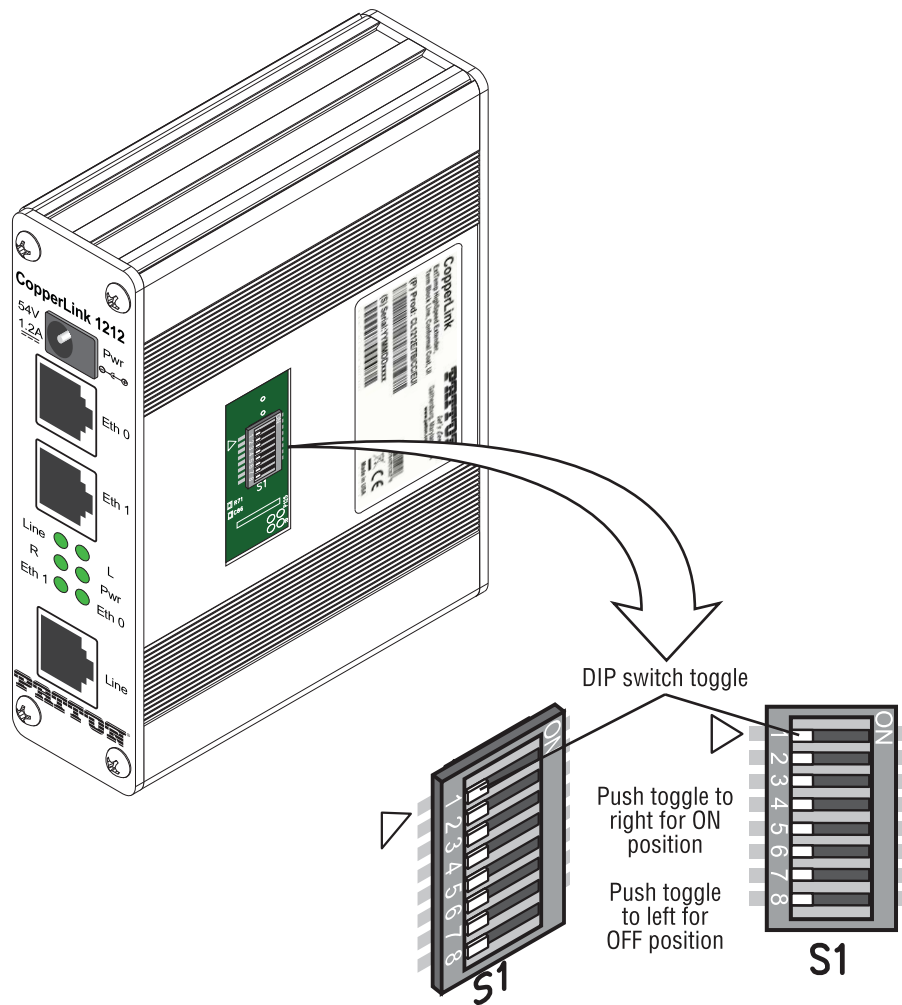

Figure 16. DIP switch S1 orientation
2. The DIP switches are externally accessible from the side of the CL1200E. Figure 16 on page 29 shows the orientation of the DIP switches in the On and Off positions.
DIP switch S1 (see figure 16 on page 29) is where you configure the Line interface settings. The settings are described in table 1.